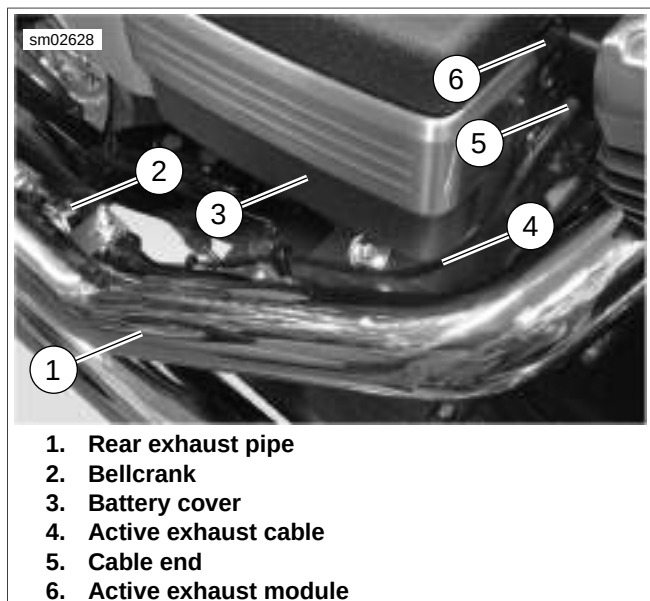

Figure 4-64. Active Exhaust Bellcrank Location
- a. Install ferrule (3) in bellcrank.
- c. Install cable retainer (2) on exhaust pipe.
- d. See Figure 4-64. Ensure cable is properly routed and secured.